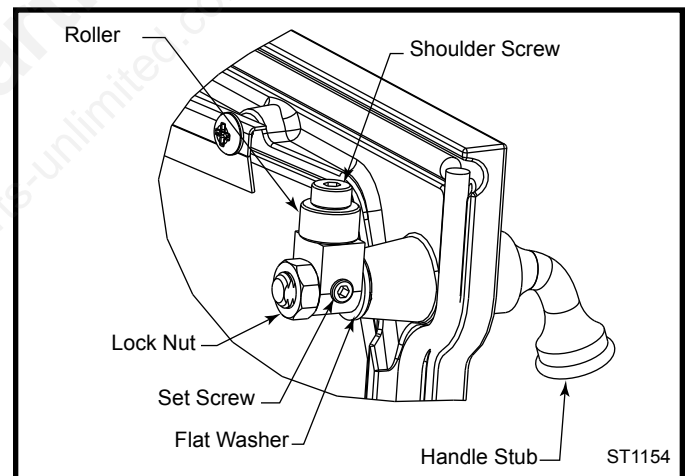

Fig. 13 Rotate pawl and/or remove flat washer to adjust latch.
1. Remove and retain the lock nut with a $\frac{3}{16}$ " wrench. (Fig. 13)